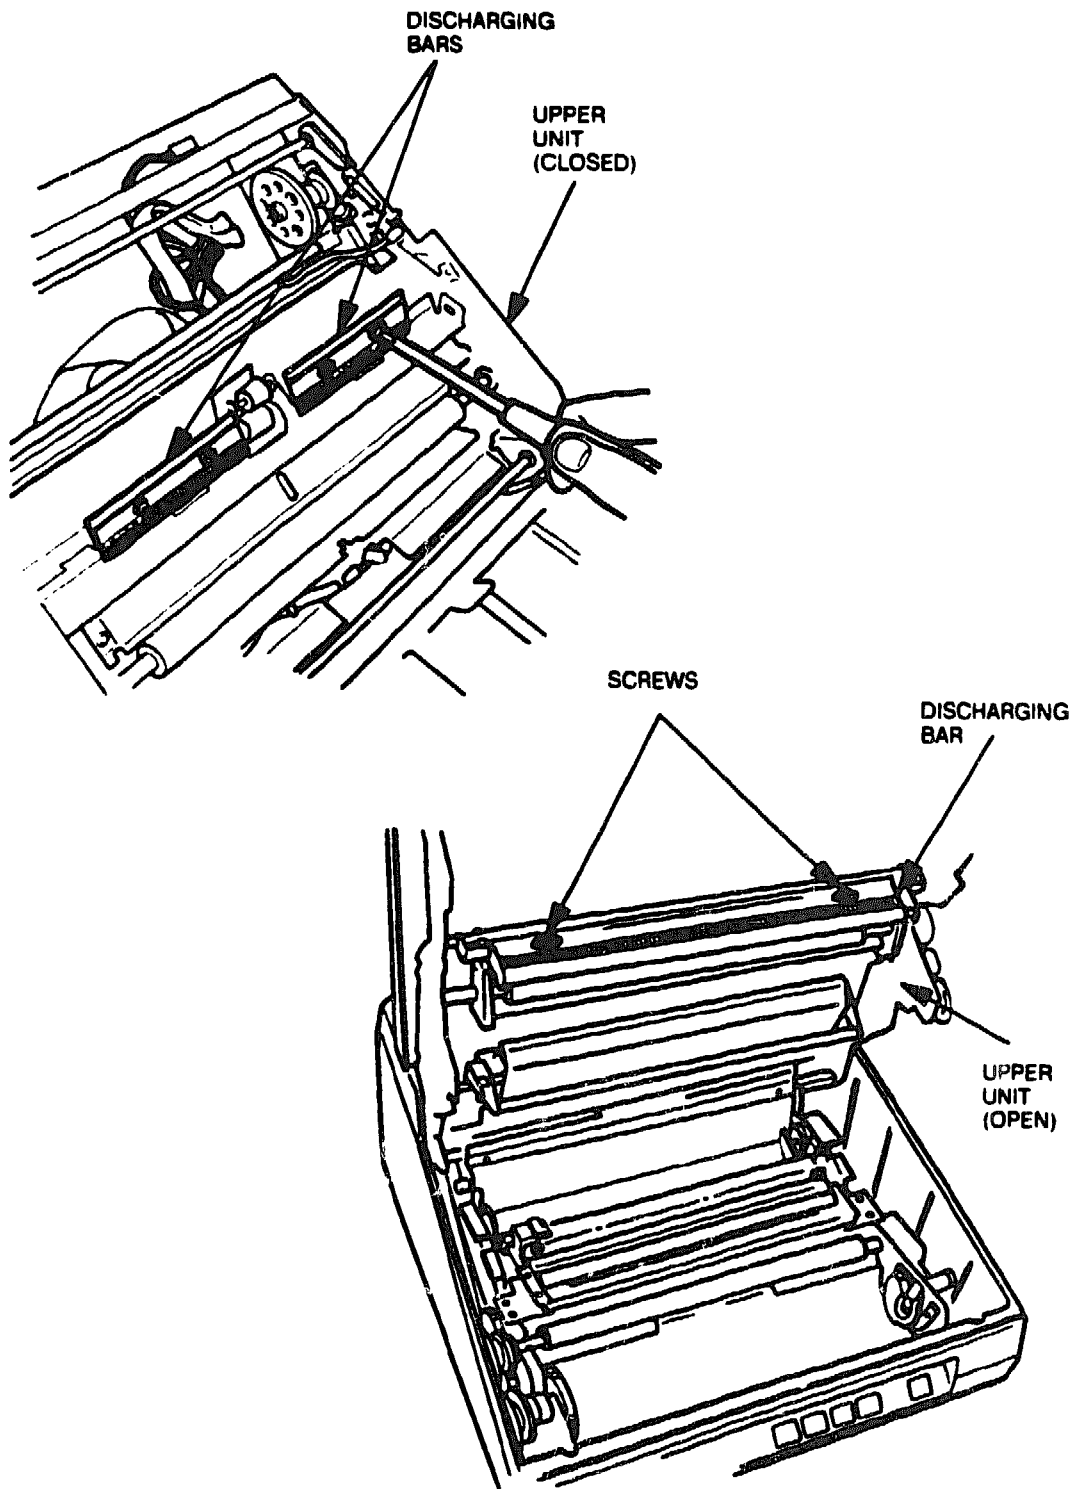

Figure 6-49 Upper Unit Discharging Bars
3. With the upper unit closed, remove the screws that secure the discharging bars to the top of the unit (see Figure 6-49) and remove the bars. Then open the upper unit and remove the screws that secure the bar on the inside (see Figure 6-49) and lift off the bar.